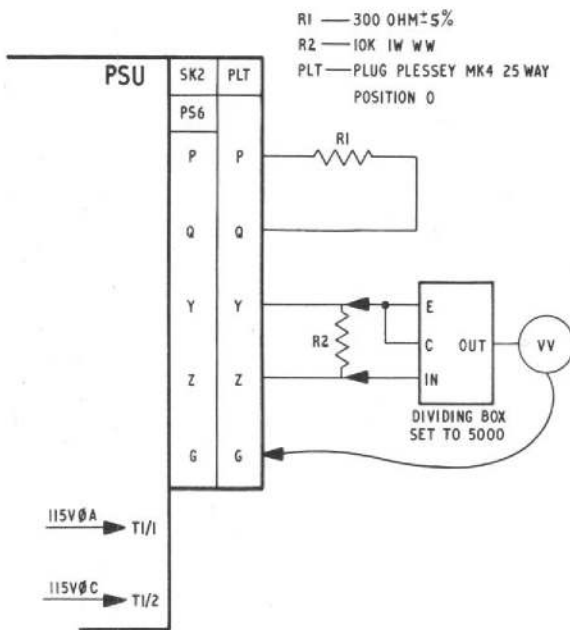

Fig. 2. Balancing 10V(X) and 10V(Y) if only one phase is out of tolerance (test set, Type 9)
- (6) Repeat sub-para. (4) until the terms of sub-para. (5) have been satisfied.
- (7) Switch off S1A and PCU MAINS, disconnect subsidiary test equipment, with the exception of T1, and reconnect as shown in fig. 2.
- (8) Switch on PCU MAINS and S1A, set the dividing box to 5000 and adjust RV3 until the valve voltmeter registers a null.
- (9) Adjust the dividing box in each direction to a point where the valve voltmeter reading just starts to increase; if RV3 has been adjusted correctly, this should be achieved by a movement of the voltage dividing box control of not more than 0005 each way.
- (10) Repeat sub-para. (8) until the terms of sub-para. (9) have been satisfied.
- (11) Switch off S1A and PCU MAINS, disconnect subsidiary test equipment and T1 and reconnect the PSU to the test set, Type 9.
- (12) Carry out the standard serviceability output tests in respect of 10V(X) and 10V(Y).
- (13) Repeat as necessary from sub-para. (1) until both supplies are within tolerance.
26. If the conditions of para. 25 (6), (10) and (13) cannot be satisfied, check the values of RV3 and RV4. Replace if out of tolerance and repeat para. 25. If these resistors are within tolerance or, having been replaced, the conditions of para. 25 still cannot be satisfied, replace transformer T3 and repeat from para. 20.
- (2) Connect up subsidiary test equipment as shown in fig. 2, with pin 1 of transformer T1 connected to pin A of SK9 (PS3) of the distribution panel of test set, Type 9 and pin 2 of transformer T1 connected to pin C of the same socket.
- (3) Switch on PCU MAINS and S1A.
- (4) Set the dividing box to 5000 and, if X phase is out of tolerance, adjust RV4 or, if Y phase is out of tolerance, adjust RV3 until the valve voltmeter registers a null.
- (5) Adjust the dividing box in each direction in turn to a point where the valve voltmeter